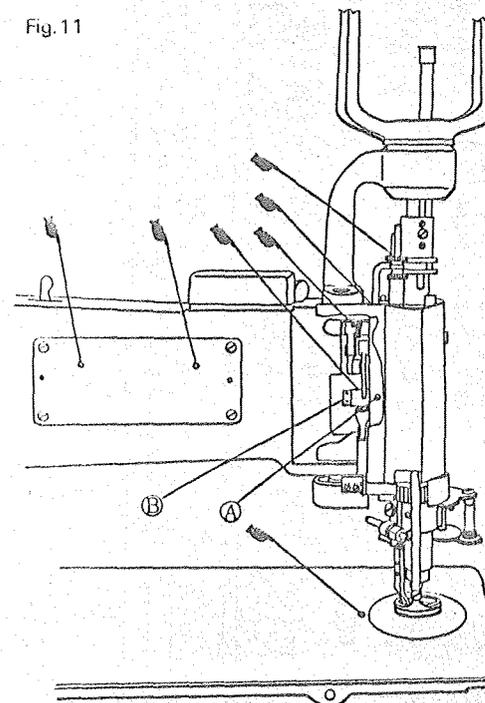

Fig. 11
To raise the nipple, insert a screwdriver in hole (A), Fig. 11 and loosen the set screw therein. The eccentric adjusting stud (B) can then be turned by the wrench provided so that nipple can be set at the desired height, then tighten the set screw in hole (A).